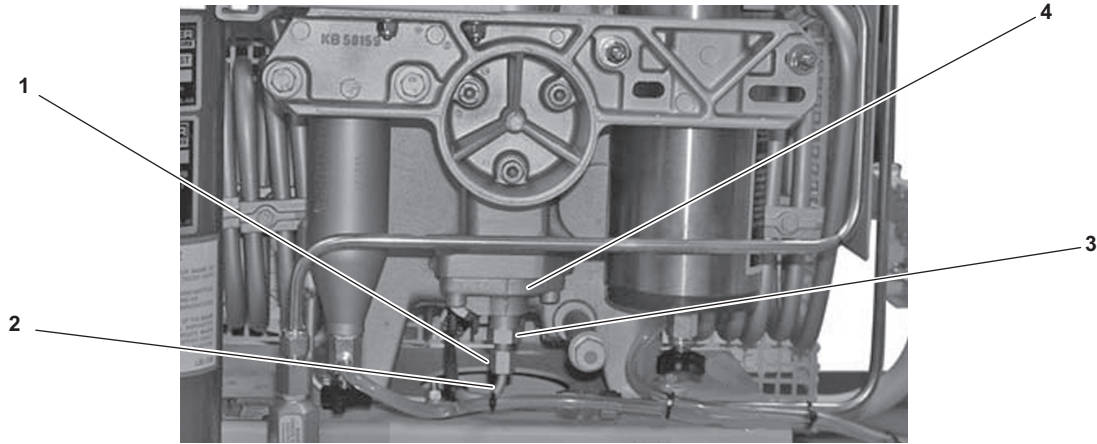
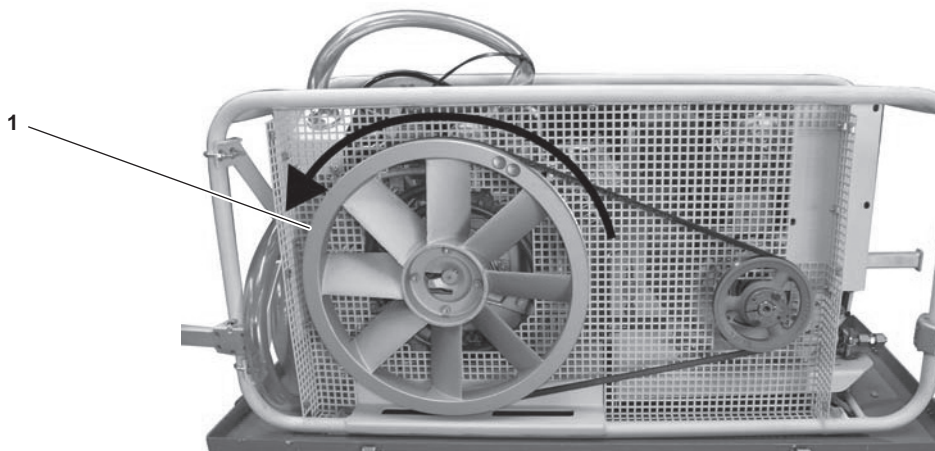

Figure 6-38. Tube Nut and Tube
Figure 6-39. Compressor Flywheel Rotation
- (4) Using a 9/16 inch wrench, loosen (CW) and remove the tube nut (figure 6-38, item 1) and tube (figure 6-38, item 2) from the oil pump fitting (figure 6-38, item 3) on the bottom of the compressor block (figure 6-38, item 4). Place rags under the fitting to catch the oil.
- (5) Rotate the compressor flywheel (figure 6-39, item 1) CCW by hand until bubble-free oil emerges from the oil pump fitting (figure 6-38, item 3). This should only take a few seconds.
- (6) When bubble-free oil is observed, install the tube (figure 6-38, item 2) and tube nut (figure 6-38, item 1) to the oil pump fitting (figure 6-38, item 3). Secure with a 9/16 inch wrench, turning CCW until snug.